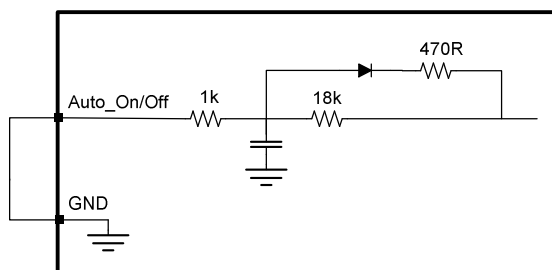

Figure 15: Normal On/Off application
- On/Off by mains switch: If the board should power up when mains voltage is present, the Auto\_On/Off pin should be connected to GND as shown in figure 15 to disable the Signal Sense feature.